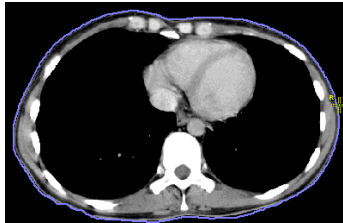

Figure 262 – Defining the right point of the bolus
- The cursor is now marked as **R**. Click the rightmost point of the bolus, as described above for the leftmost point (see Figure 262).